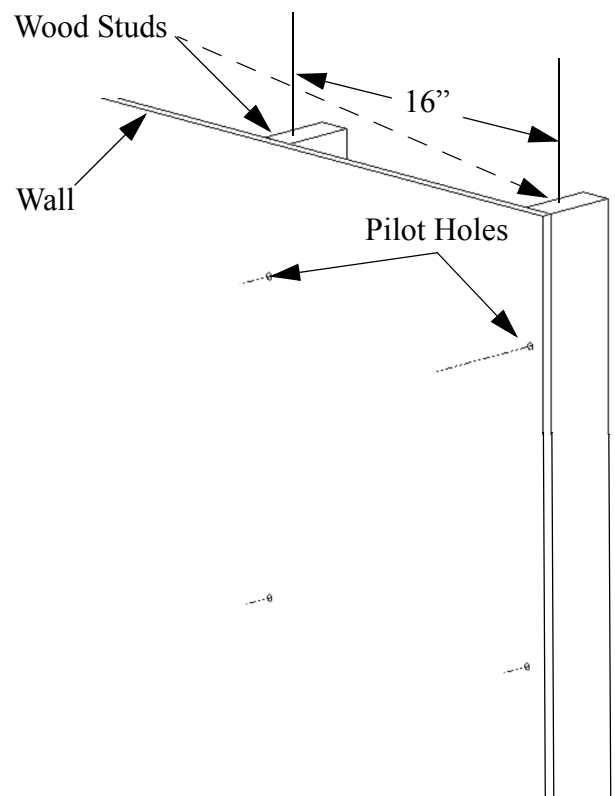

Figure 1: Two Wood studs 16" Apart On Center
7. Drill two pilot holes using a 7/32" drill bit where the mounting holes were marked for anchoring the top bracket. See Figure 1.